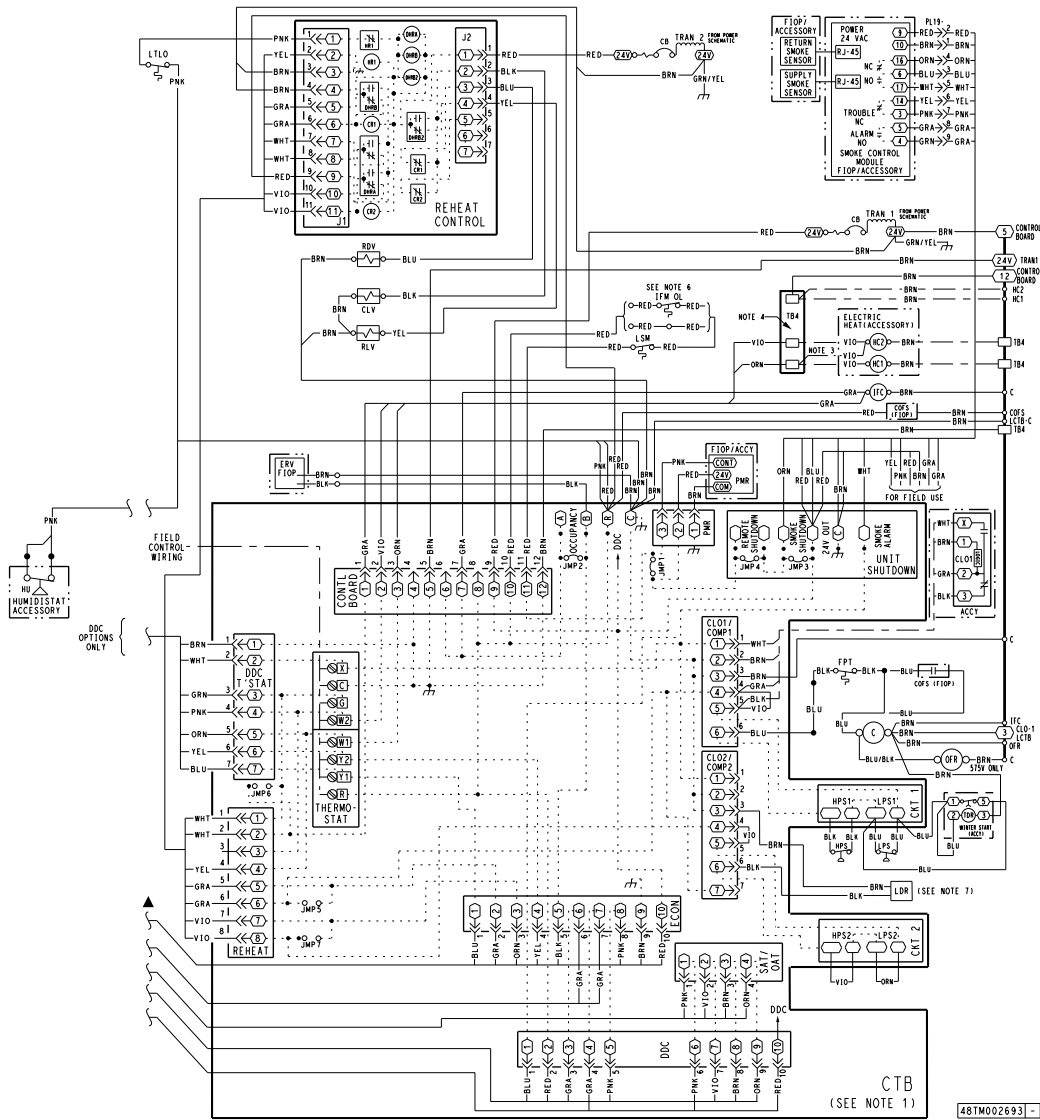

Fig. 37 - Typical Humidi-MiZer® Adaptive Dehumidification System Humidistat Wiring
3. Use wire nuts to connect humidistat cable to the leads in the low-voltage wiring (as shown in Fig. 37), connecting PNK to PNK and PNK/BLK to PNK/BLK.